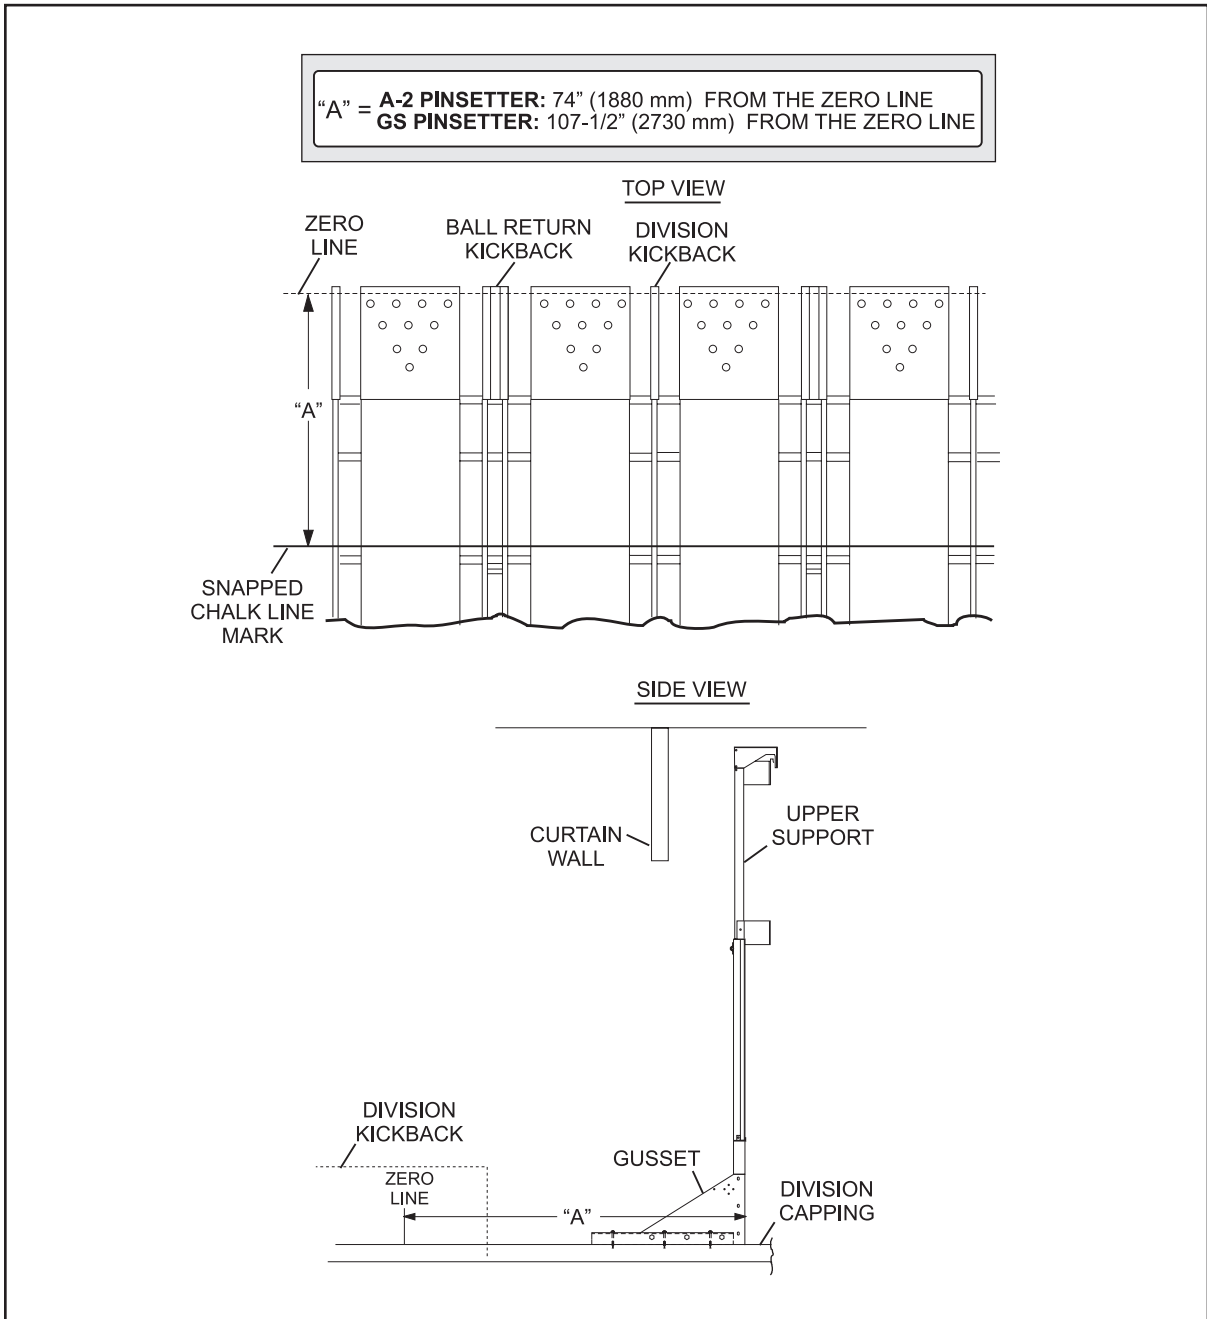

Figure 1
Mark the gusset locations ("A") on the capping by snapping a chalk line. Refer to *Figure 1*.
1. Snap a line 74" (1880 mm) from the zero line. Refer to *Figure 1*.
1. Snap a line 107-1/2" (2730 mm) from the zero line. Refer to *Figure 1*.